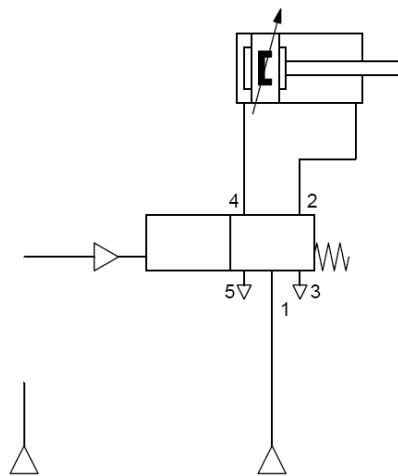

Fig. A.1/2. *Pneumatic circuit diagram of crate stopping unit.*
- NB: the manifold and the maintenance unit (consisting of shut-off valve and pressure reducing valve) which both are needed in the circuit are not displayed in the figure A.1/2 below.